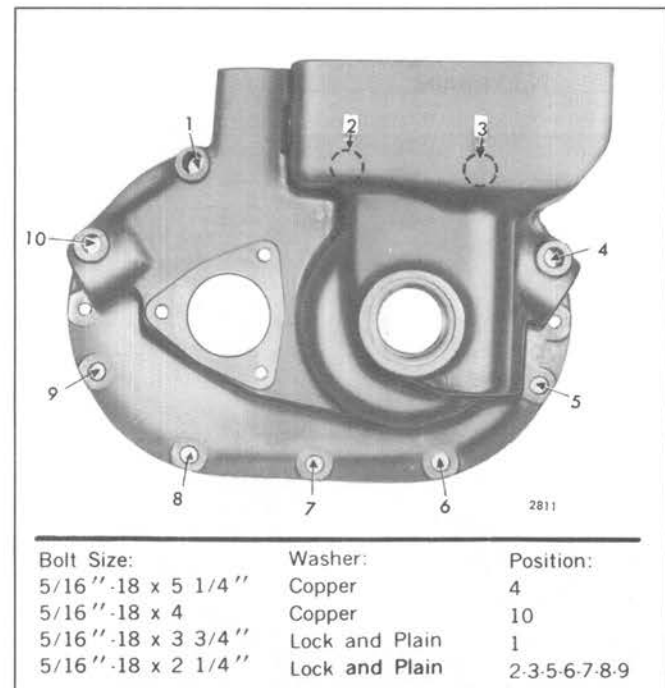

Fig. 27 – Location and Size of Governor Retaining Bolts
6. Refer to Fig. 27 for the locations, and install the bolts, lock washers, copper washers and plain washer securing the governor to the blower. Tighten the bolts to 13–17 lb-ft (18–23 N•m) torque.
2. Refer to Fig. 27 for the bolt location and install the bolts, lock washers, plain washer and copper washers which secure the governor to the blower. Tighten the bolts to 13–17 lb–ft (18–23 N•m) torque.